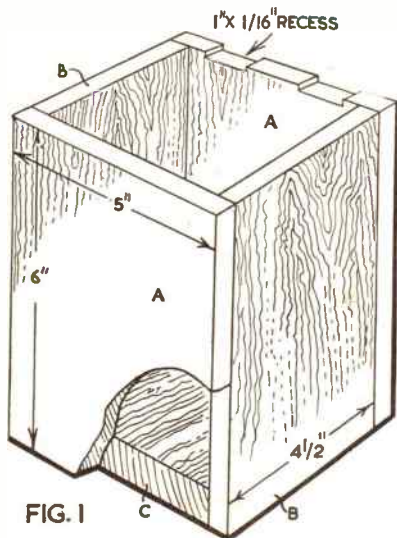

FIG. 1
THE diagram in Fig. 1 shows the general construction and the overall dimensions of the biscuit barrel. Note that recesses are cut in piece (A) to take the lin. light brass hinges.
Assemble the box as shown in Fig. 1, using glue only. Wipe off the excess before the glue has time to dry.